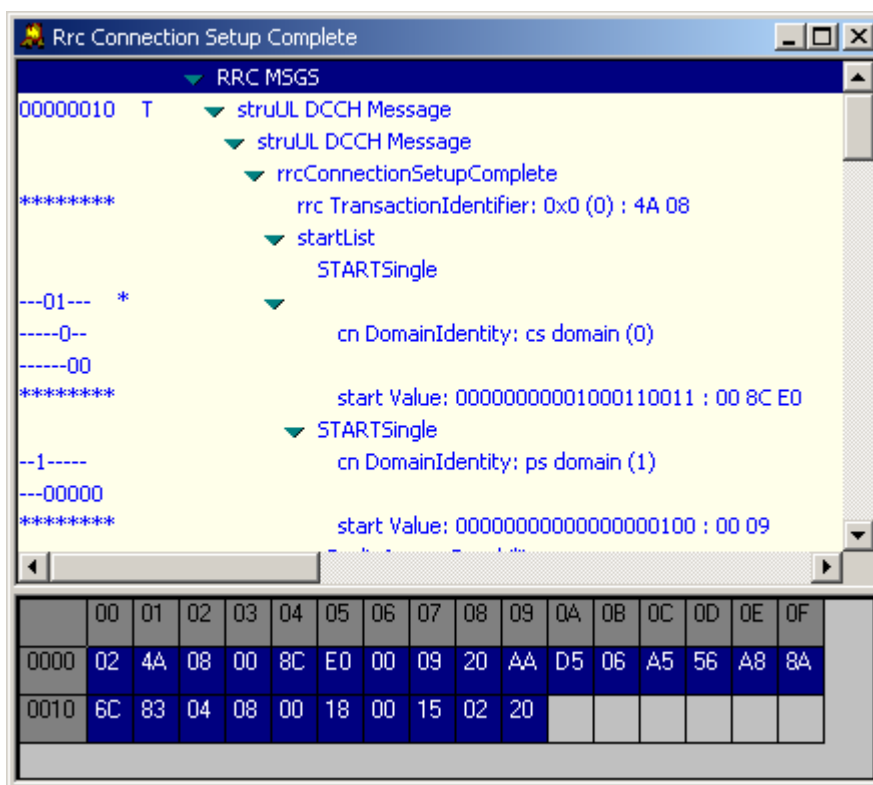

Figure 5-57 Rrc Connection Setup Complete window
- The detailed information is displayed by double-clicking the message, as shown in Figure 5-57.